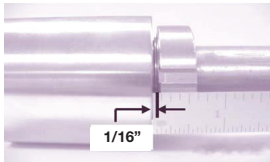

Figure 2 - Gap for Second GRIP TIGHT Fan Bushing
- 4) Slide the second Grip Tight Fan Bushing assembly over the shaft and into the bore of the component leaving a 1/16" gap between the bushing face and component shoulder (Figure 2).